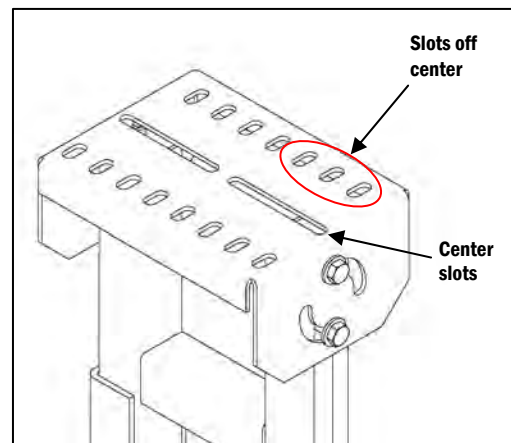

Figure 3
- If the Stand is only 2" wider than the conveyor, then the slots off of the center of the Stand's Top Plate will have to be used for mounting (**Figure 3**).